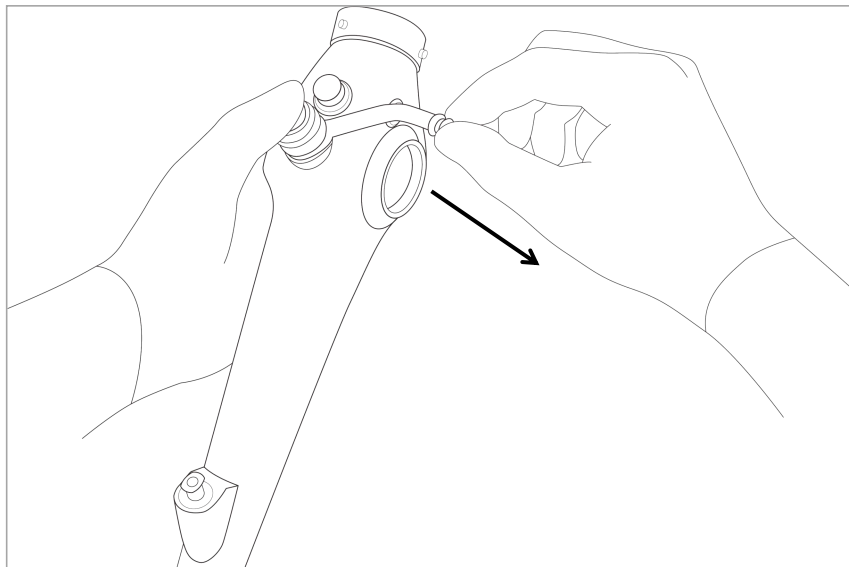

Fig. 3.10
1. As shown in Fig. 3.10, put the suction button into the suction base, and direct the arm of the suction button at the white mark on the handle.